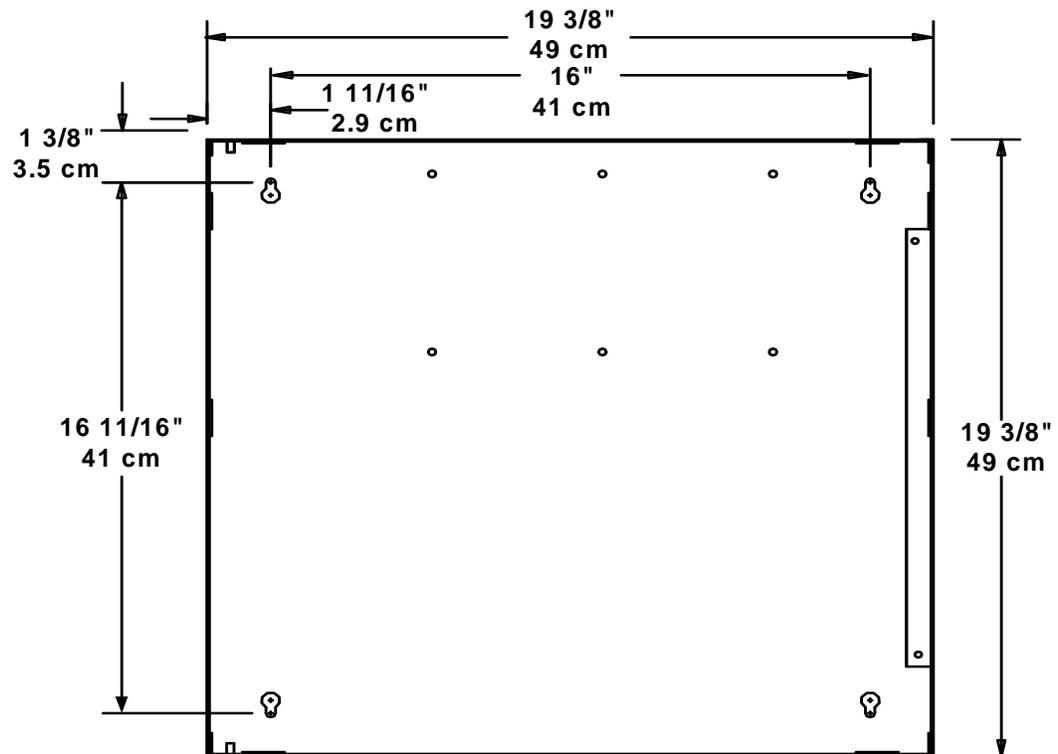

Figure 2.4.1 E3 Series Broadband Backbox
1. Prepare the mounting site by pre-drilling for fasteners as needed using the dimensions shown in Figure 2.4.1. Mounting hardware should be #10 to ¼" in diameter.